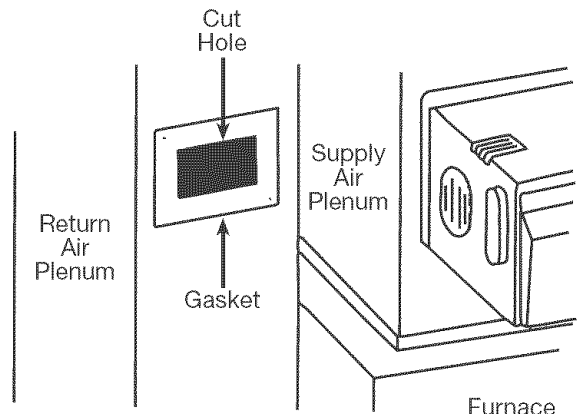

Fig. 11
1. Locate the humidistat on the return (cold) air plenum (Fig. 11). **DO NOT** install the humidistat on the supply (hot) air plenum because the humidistat cannot accurately measure indoor relative humidity and will cause the humidifier to function improperly.